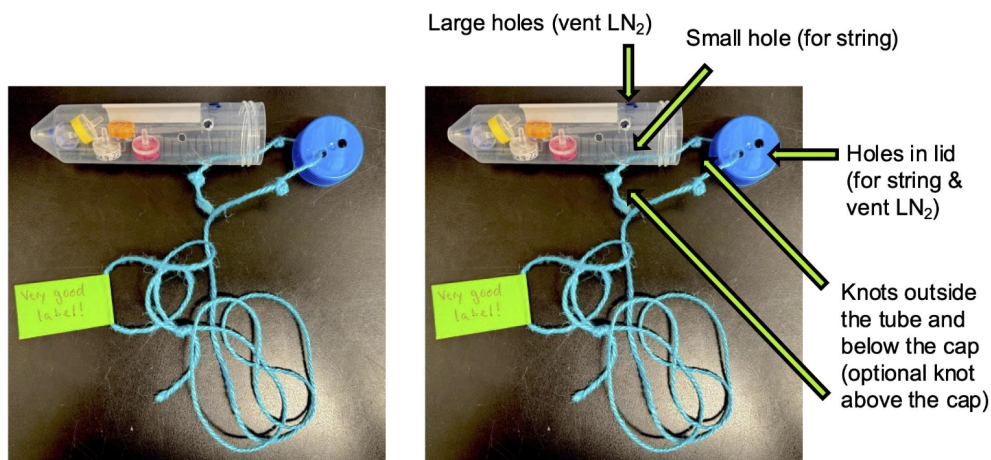

Figure 3. A well labeled and ventilated conical tube is shown. Important features are labeled on the right image.
- 4.2.1.3. Attach a string long enough to reach the bottom of the dry shipper easily. Tie knots in the string outside of the tube and below the lid (Figure 3).